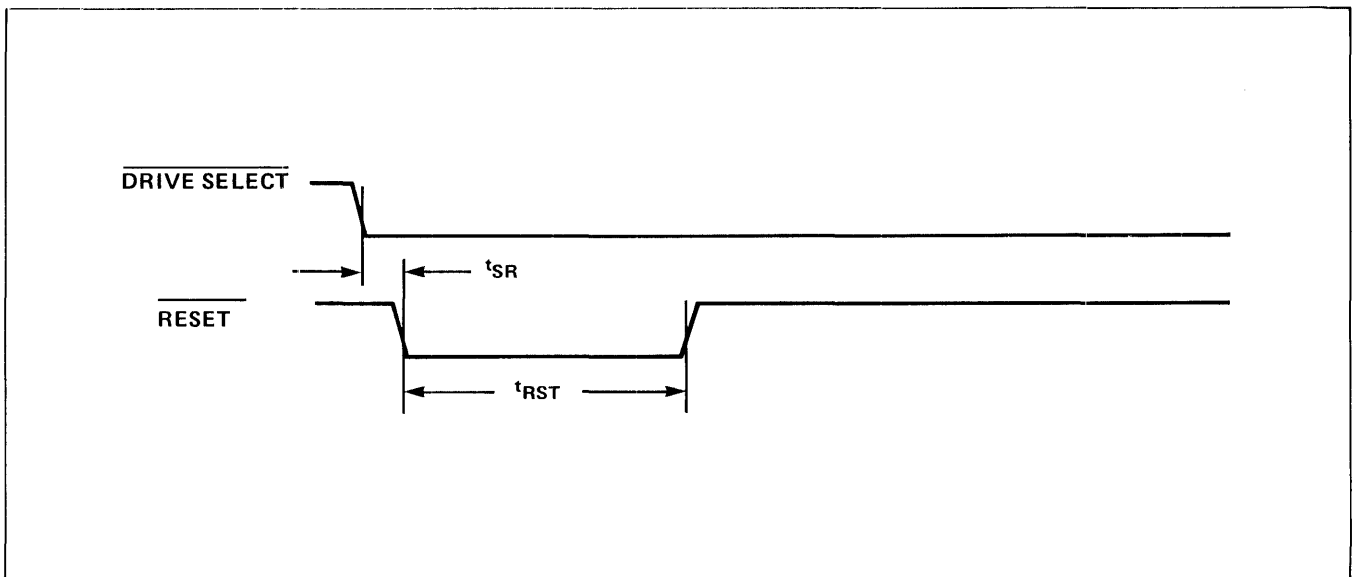

Figure 4-17. Reset Timing
3. *Reset Timing* Reset timing is shown in Figure 4-17. The AC characteristics are listed in Table 4-22.